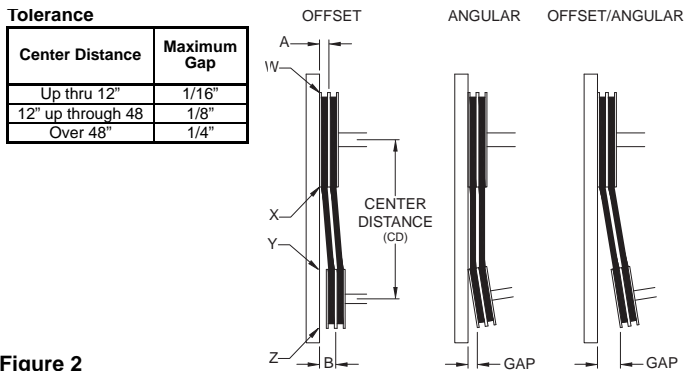
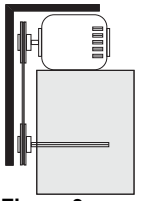

Figure 2
Figure 3
- Ensure pulleys are properly aligned. Refer to *Figure 2*.
Figure 2 indicates where to measure the allowable gap for the drive alignment tolerance. All contact points (indicated by WXYZ) are to have a gap less than the tolerance shown in the table. When the pulleys are not the same width, the allowable gap must be adjusted by half of the difference in width. *Figure 3* illustrates using a carpenter's